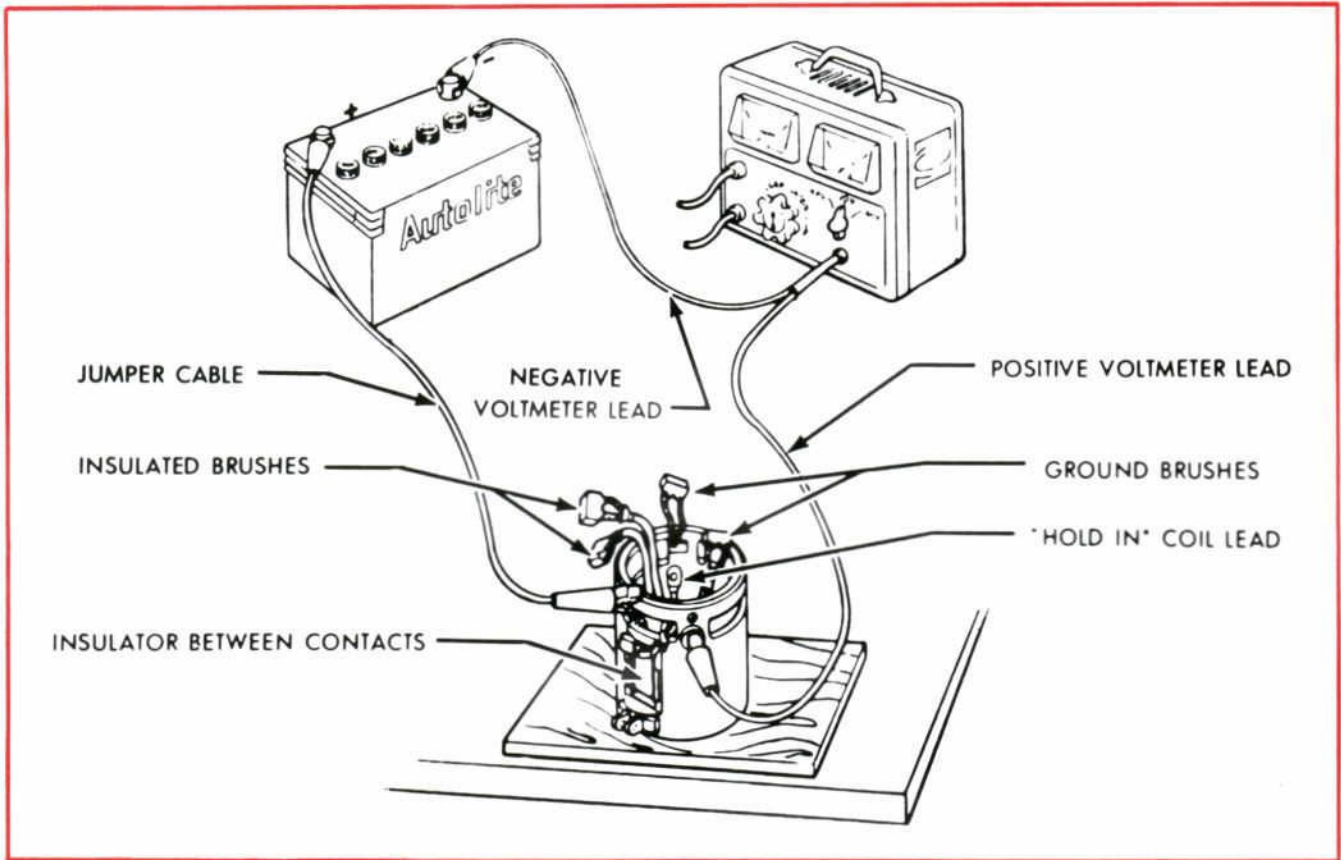

Figure 7—Field Coil Grounded Circuit Test
1. Insert an insulator (business card or its equivalent) between the switch contacts (figure 7).